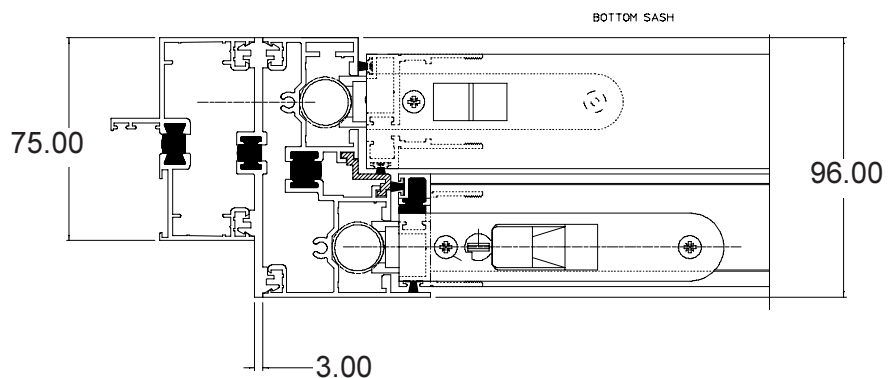

Fig.38
8.2 Coupling Sliders to Monaframe (Fig.38)